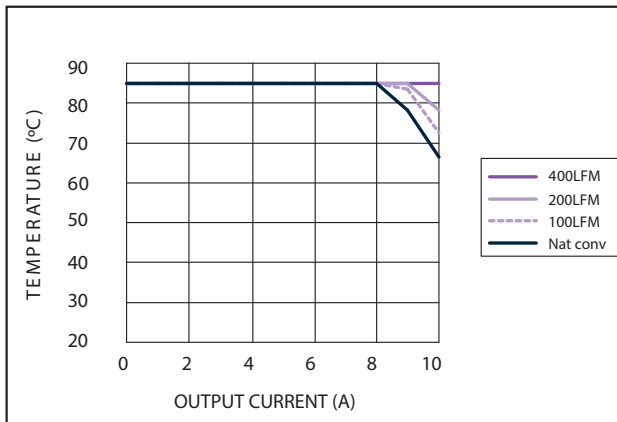

Figure 1 - Safe Operating Area
2. See Figures 1 for safe operating curves.